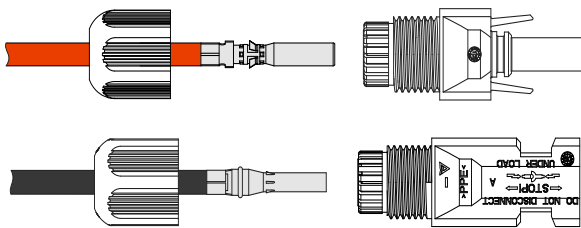

Figure 3-34 Fasten the metal terminal
- Step 3 Insert the positive wire and negative wire into corresponding insulation crust respectively. If there has a click sound, it means that the wire has been inserted properly, as shown in Figure 3-34.